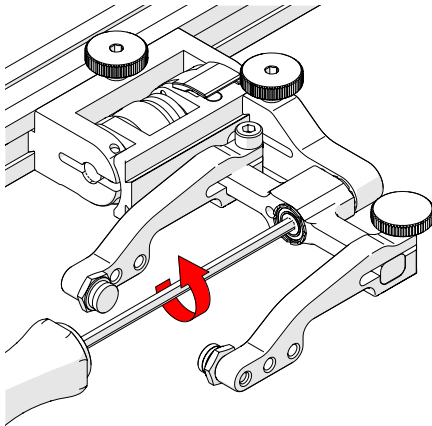

Fig. 78 - Unscrew yoke pivot screw
1. Unscrew the yoke from the swing arm (Fig. 78).